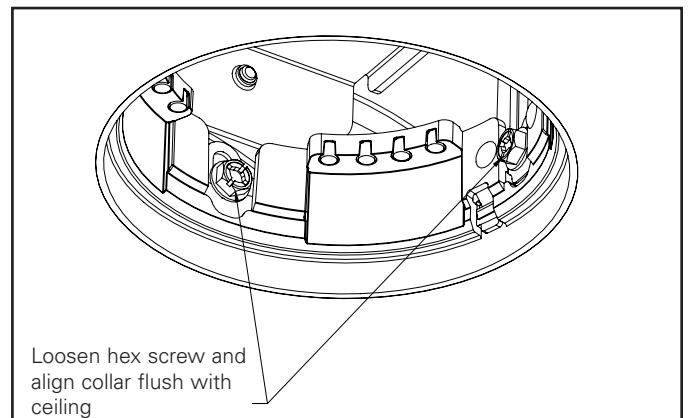
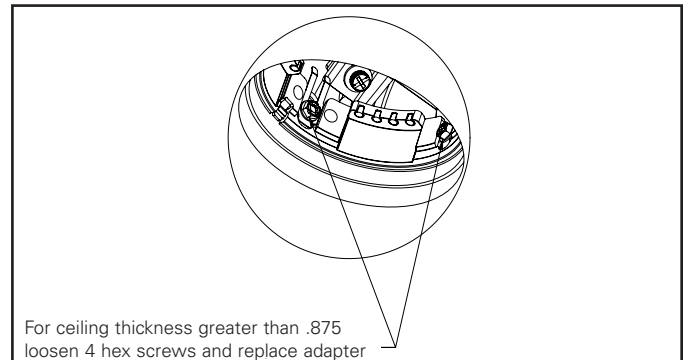

Figure 5.
Figure 8.
5. Once the ceiling is installed, remove the overspray protector, adjust fixture for ceiling thickness by loosening the 4 hex screws that attach the collar to the housing. Bring the bottom edge of collar flush with the finished ceiling (Figure 5) and tighten 4 hex screws. If ceiling thickness is greater than 7/8" and up to 2-1/2," replace existing collar with extension collar (PCE3* or CA3*) and adjust height using hex screws (see figure 8 and 9) as per the Extension-Collar-installation-instructions sheet # IL53450325. **If Knife edge adaptors (CA3*) are used. Self-Flange adaptor which is part of the housing has to be removed before installing the fixture in the ceiling.**